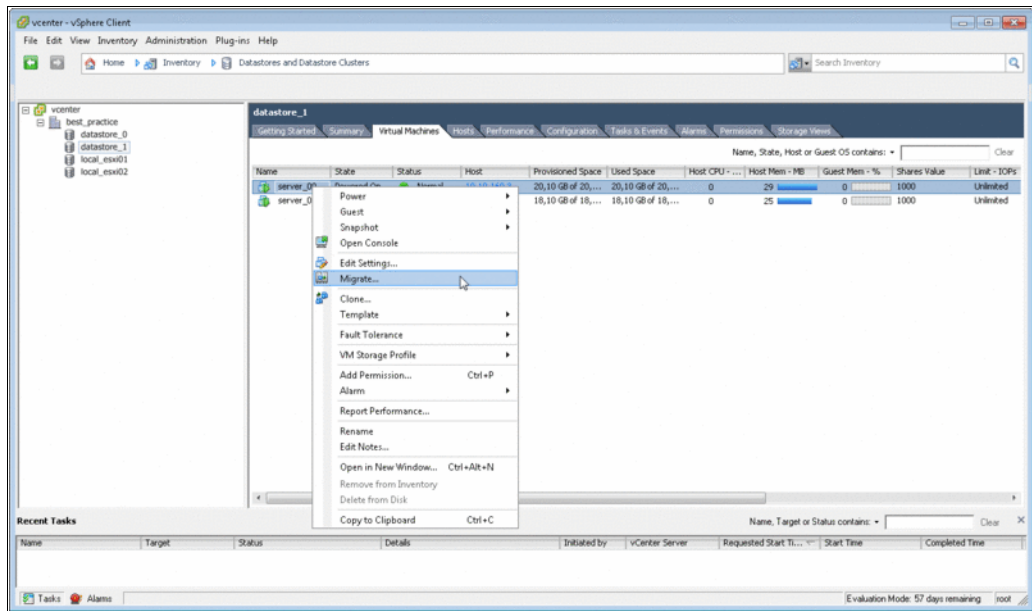

Figure 16-28 Migrating server_00 to host esxi02
2. Use VMware vMotion to migrate server_00 to host esxi02. Right-click the server_00 entry and choose **Migrate** (see Figure 16-28).